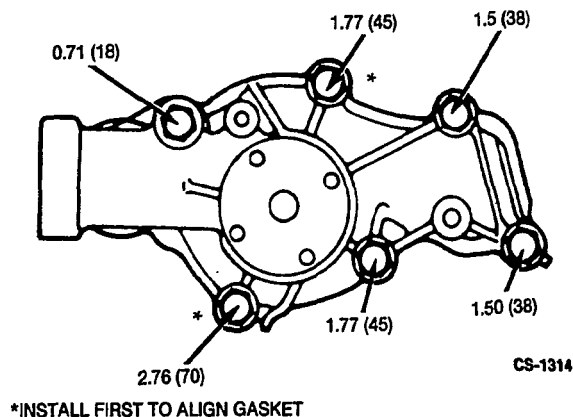

FIGURE 6-6. WATER PUMP INSTALLATION
2. Install a new gasket with the water pump. To prevent the gasket from getting out of position, the bolts marked with an asterisk (*) in Figure 6-6 should be installed first. Be sure the correct length bolt is inserted in the respective holes as shown. Torque bolts to specified value.